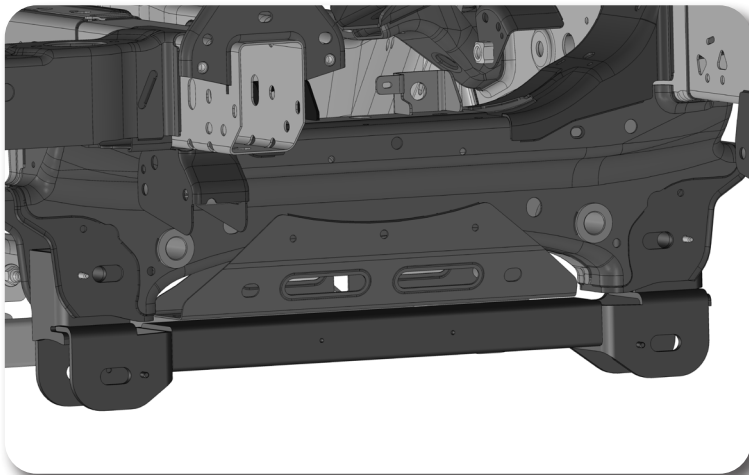

Figure 26
38. Install the front cross member in the control arm pockets with the provided shorter 18mm bolt, prevailing torque nuts, and washers Run bolts from front to rear Fig. 26. Leave hardware loose.